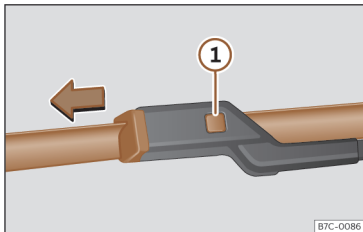

Fig. 179 Changing the windscreen wiper blades
- Press and hold release button >>> **Fig. 179**  and pull gently on the wiper blade in the direction of the arrow.